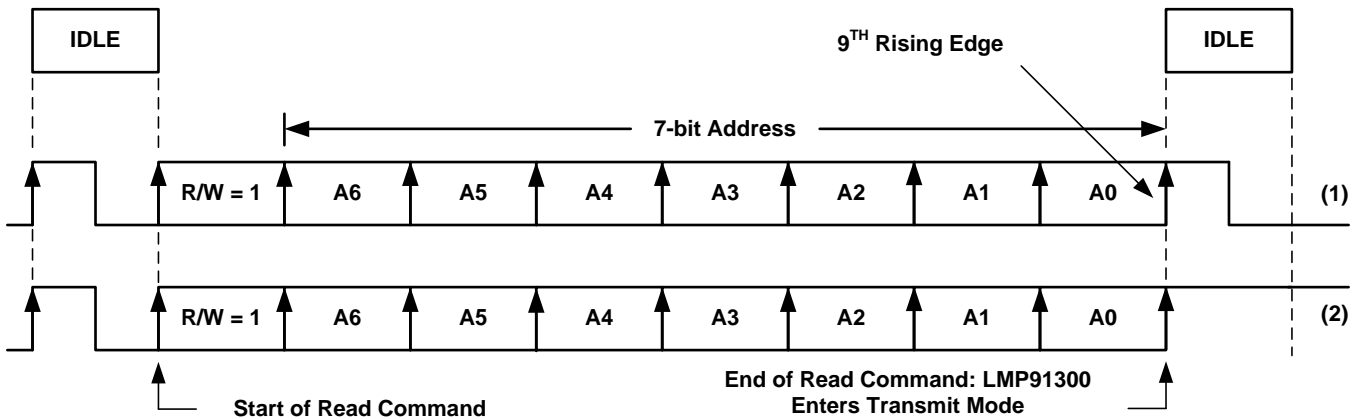

Figure 28. Read Timing Example: (1) Single Pulse, (2) Hold Signal High After Last Rising Edge
The read signal is made by modulating the supply current. This can be read by using a sense resistor in the supply line. The LMP91300 modulates the supply current by sinking current into the LED pin. The V+/EXT and LED pins need to be connected by either an LED, resistor, or directly shorted for the Read operation to work. To perform a read operation, the master must send an IDLE bit to initiate communication, a R/W bit that should be set to 1, a 7-bit address, and another IDLE bit. Data is written back after the R/W and address byte are received so there must be a 9th rising edge to ensure that this condition is satisfied. After the last bit, A0, of the address is sent there should only be one rising edge to perform the IDLE bit. There are two valid methods of providing one rising edge, (1) a single pulse, or (2) a rising edge with the signal held high. See Figure 28 for a timing example of both cases.